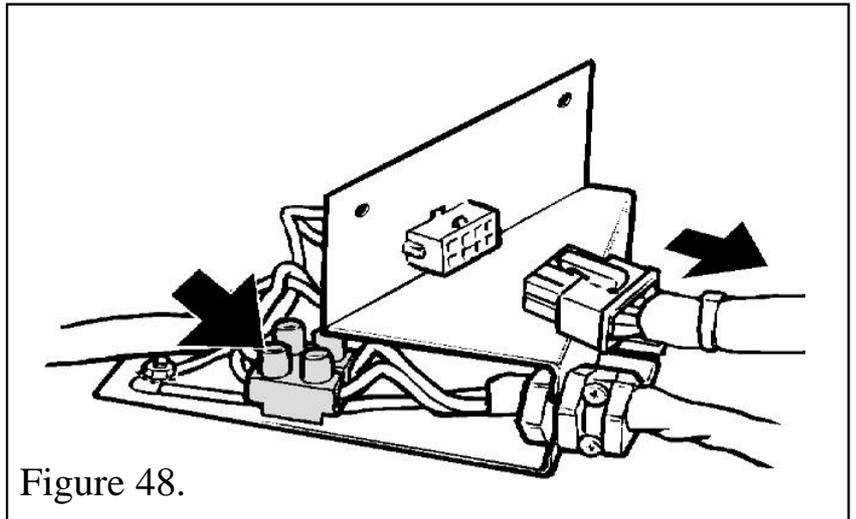

Figure 48.
- Detach the fan wiring loom connection. (See figure 48).
- Disconnect the two leads (Brown & blue) from the mains cable connection block (See figure 48)